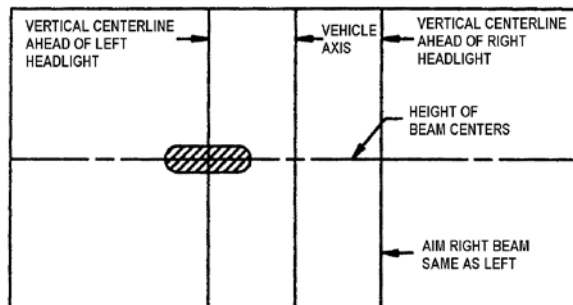

FIGURE 34: UPPER BEAM HIGH-INTENSITY ZONE PROPER LOCATION ON SCREEN 06503
5. High beam headlights are aimed so that the center of the high-intensity zone is located at the horizontal and straight ahead vertically (Figure 34).